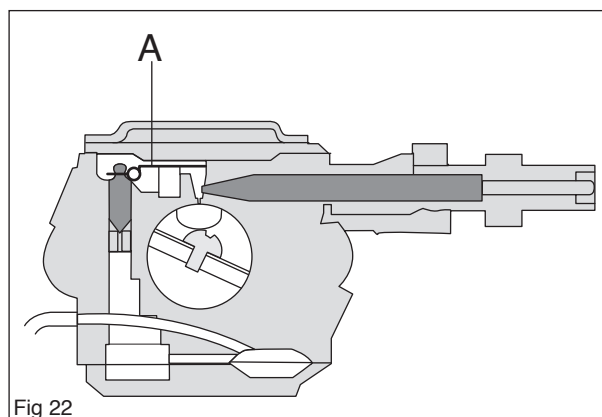

Fig 22
The jets and the fuel's control functions are located in the metering unit (A). Here the correct quantity of fuel is adjusted for the actual speed and power output. (see figure 22)